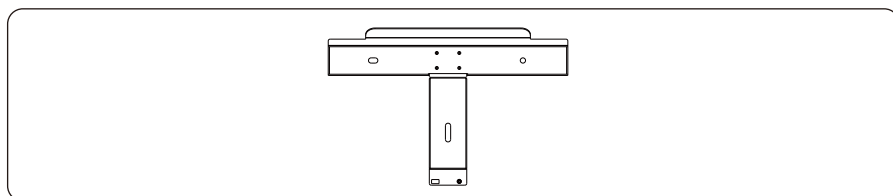

Figure 4.9 The rear panel (unit: mm)
Step 1 Move out the rear panel from the packing case, and determine the positions for the inverter and the support, shown as in Figure 4.9.